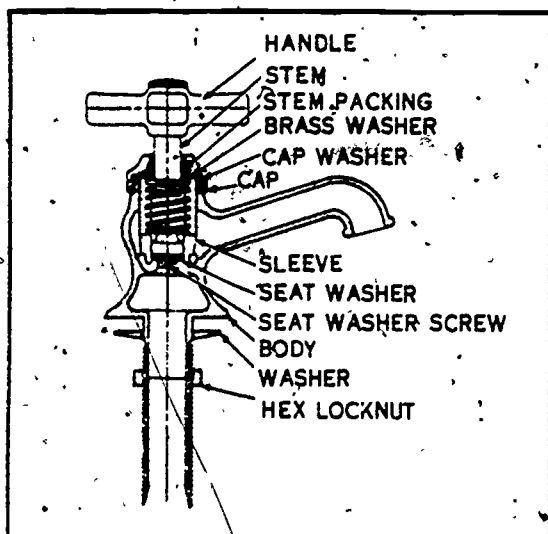

Figure 1-49. Cross section of a typical compression faucet.
**Compression faucets:** A compression faucet is one in which the flow of water is controlled by a washer which is compressed against a seat by turning a threaded spindle to which the washer is attached. There are two types of compression faucets. In one type, the body of the faucet is threaded to receive a correspondingly threaded stem that carries the washer to the seat; in the second type, the threaded stem actuates a square plug which moves vertically inside a body squared to match the plug. The faucets, shown in figures 1-49, 1-50, and 1-51, are typical compression faucets.